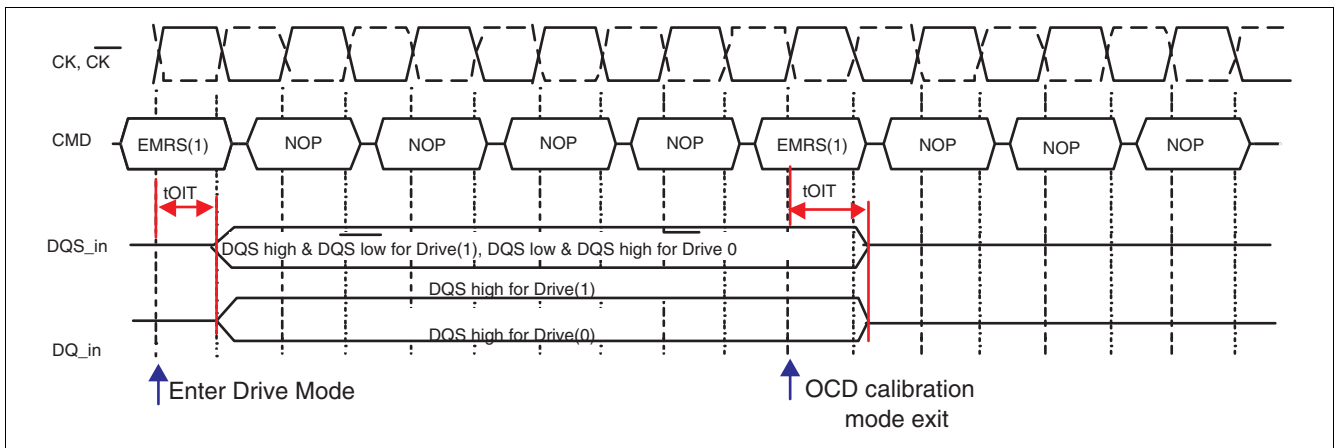

Figure 11 Timing Diagram Drive Mode
Both Drive(1) and Drive(0), is used for controllers to measure DDR2 SDRAM Driver impedance before OCD impedance adjustment. In this mode, all outputs are driven out t_{OIT} after “enter drive mode” command and all output drivers are turned-off t_{OIT} after “OCD calibration mode exit” command. See **Figure 11**.